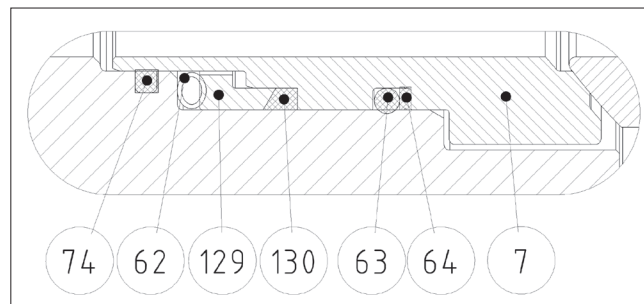

Fig. 11
- Place the back seal (O-ring) (63) into the groove in the seat. See Figure 11.
- Place the back-up rings (64) made of PTFE strips at the side of the O-ring. To ensure that the seam becomes flexible, the strip must have slanted ends.
- Place the backseal (130) and ring (129) on the seat.
- Place the spring (62) on the seat (7). Connect the ends of the spring.
- Place the solids proof seal (74) into the groove in the body and body cap.